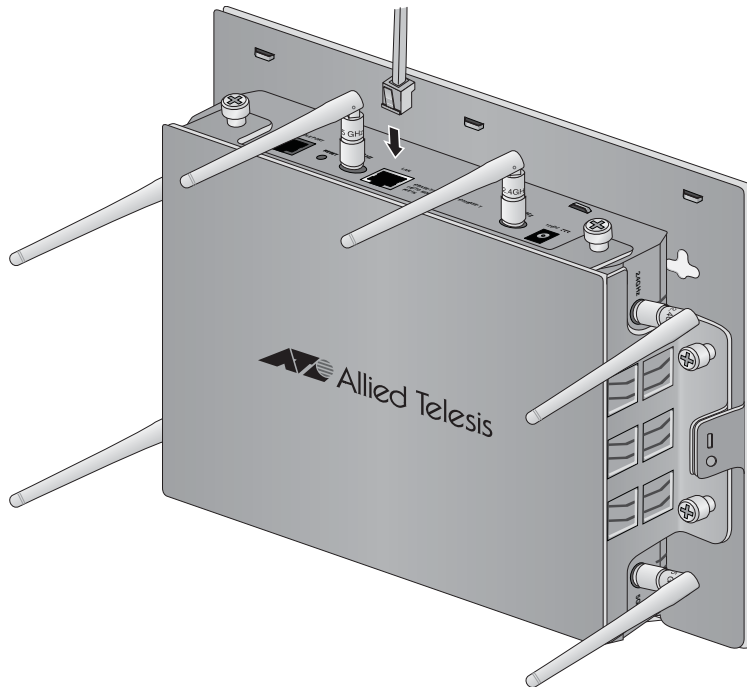

Figure 24. Attaching the LAN Cable
7. Attach a network cable to the LAN port. Refer to Figure 24.